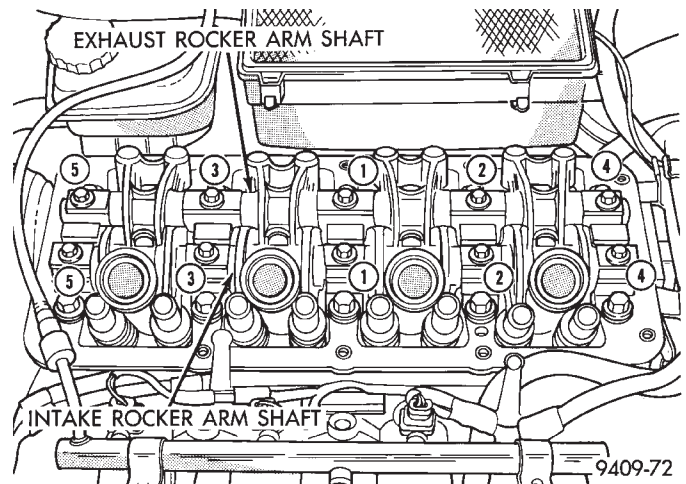

Fig. 32 Rocker Arm Shaft Tightening Sequence
- (6) Install cylinder head. Refer to procedure outlined in this section.
- (7) Install camshaft sprocket and tighten to 115 N·m (85 ft. lbs.).
- (8) Install rear timing belt cover.
- (9) Install timing belt tensioner and timing belt. Refer to procedures outlined in this section.
- (10) Install rocker arm assemblies in correct order as removed. Tighten the rocker arm assemblies in sequence shown in (Fig. 32) to 28 N·m (250 in. lbs.).